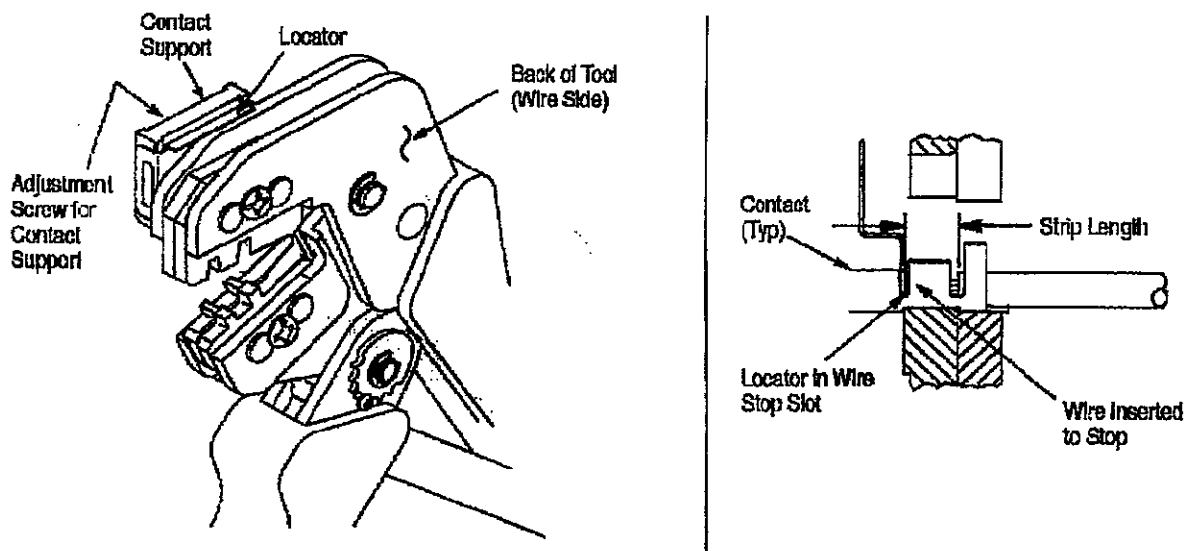

Figure 3
##### ADJUSTMENT (Figure 3)
Refer to the table in Figure 1 and select wire of the specified size and insulation diameter. Strip the wire to the length indicated in Figure 1, taking care not to nick or cut wire strands. Select an applicable contact and identify the appropriate crimp section according to the wire size markings on the tool. Refer to Figure 3 and proceed as follows:
3. Position the contact so that the mating end of the contact is on the locator side of the tool, and so that the "U" of the wire and insulation barrels must face the tool. Place the contact up into the nest so that the movable locator drops into the slot in the contact. Refer to Figure 3. Butt the front end of the wire barrel against the movable locator.
5. Insert stripped wire into contact insulation and wire barrels until it is butted against the wire stop, as shown in Figure 3.
*The crimped contact may stick in the crimping area, but the contact can be easily removed by pushing downward on the top of the locator (see Figure 3).*